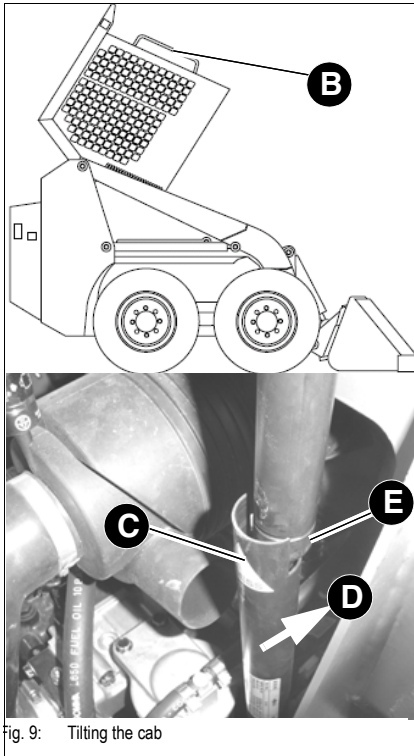

Fig. 9: Tilting the cab
- ☞ The safety tube must engage underneath the cylinder (see Fig. 9)